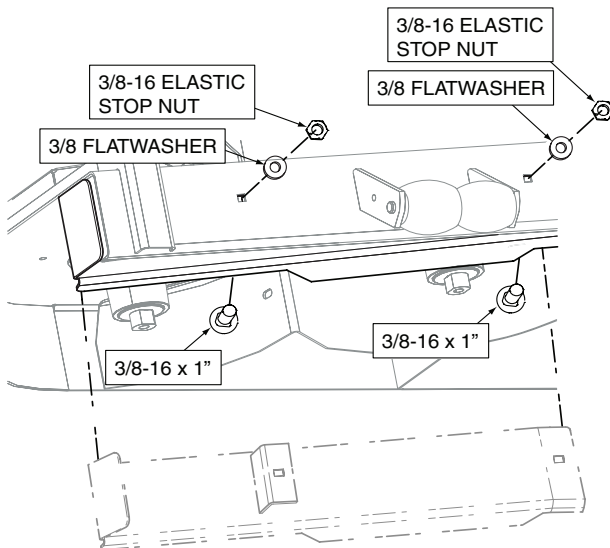

Figure 2-3. SFZ36 Right Side Baffle
1. Install the right side cutter deck baffle as shown in Figure 2-3. Secure using (2) 3/8-16 x 1" carriage bolts, (2) 3/8" flatwashers and (2) 3/8-16 elastic stop nuts.